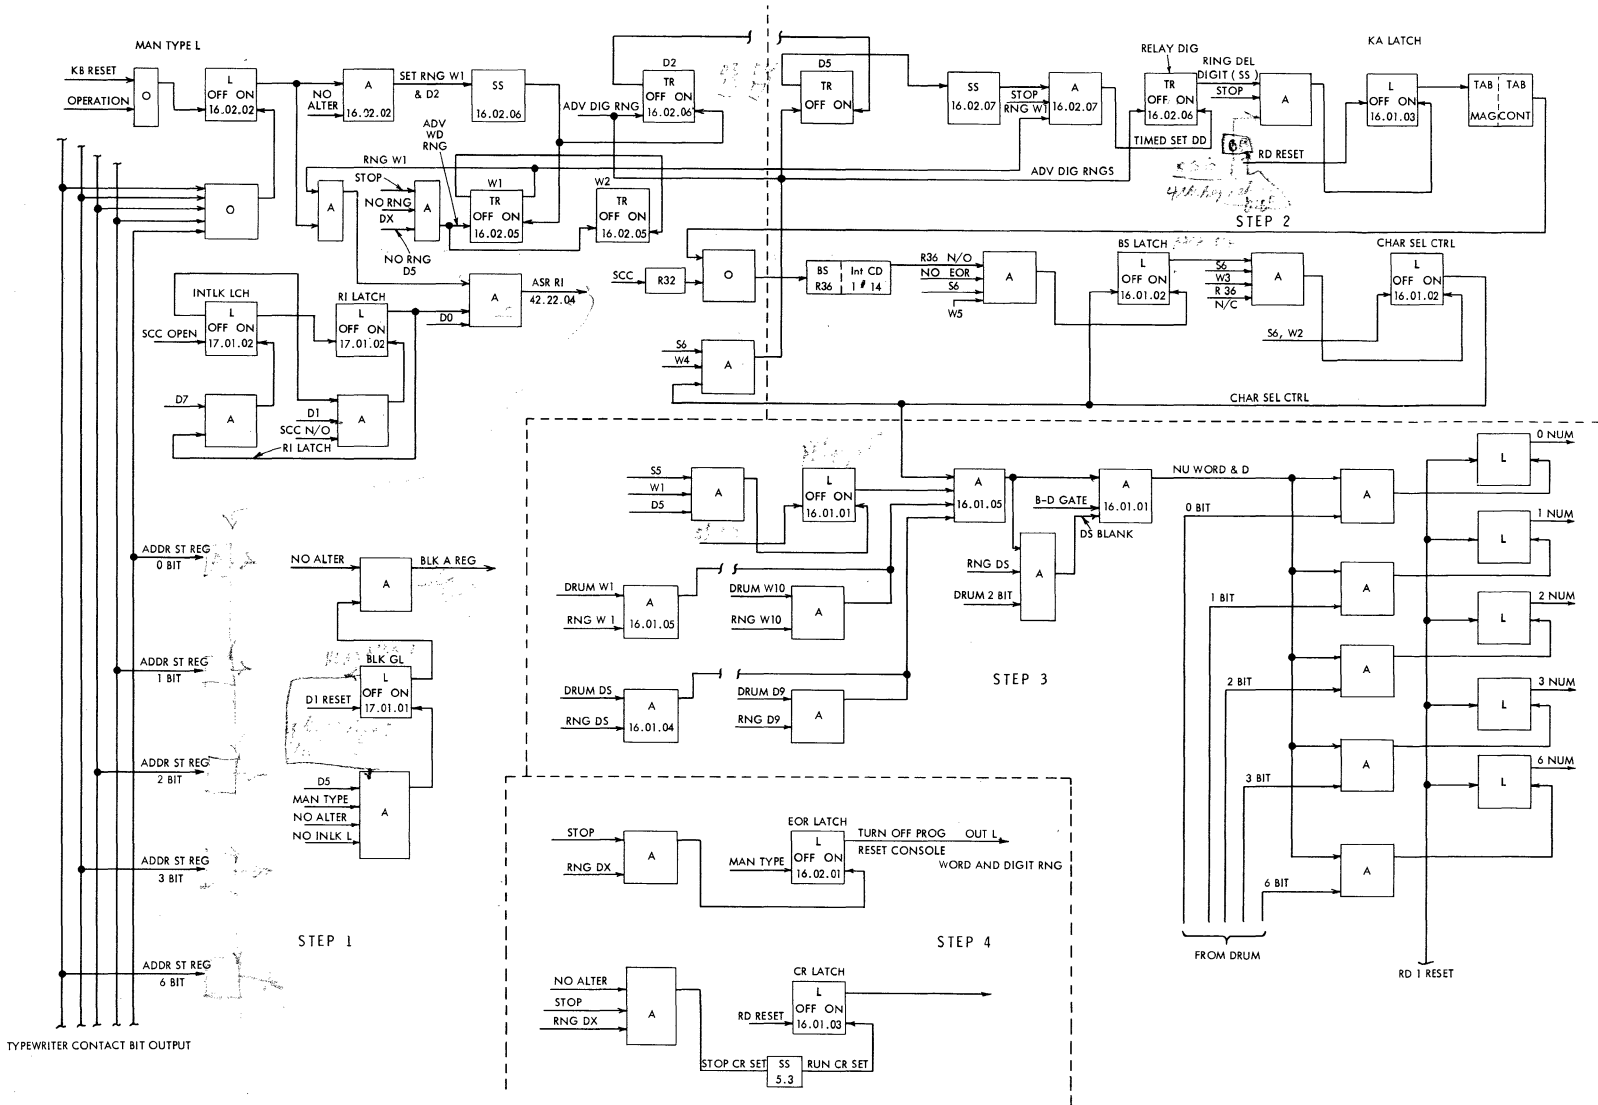

FIGURE 4.4-2 POSITIVE LOGIC CHART - ADDRESS "REQUEST" AND "REPLY"
#### Step 1 - Manually Type Address "Request" (Figures 4.4-2 and 4.4-3)
Step 2 A - Automatic Tab Operation (Figures 4.4-2 and 4.4-4)
Step 2 B - Address "reply" Transfer to Drum (Figures 4.4-2, 4.4-4 and 4.4-5)
Step 3 - Typing of Address "Reply" (Figures 4.4-2, 4.4-6 and 4.4-7)